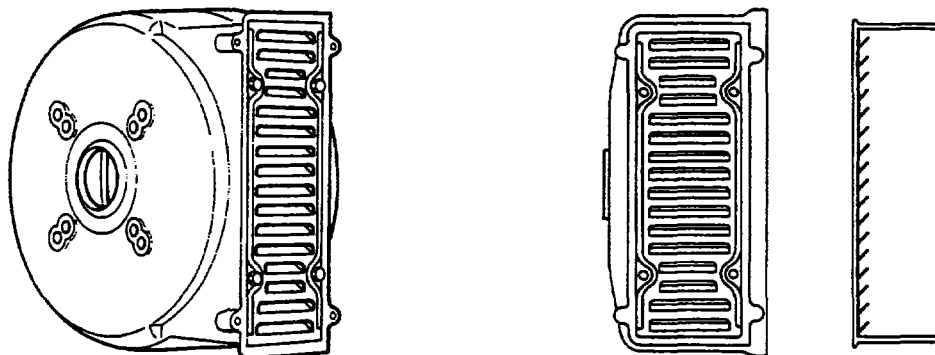

Fig. 10-23
(1) Attach the front protector to front cover. The louvers of the front protector project into the inside of front cover as shown in Fig. 10-23.